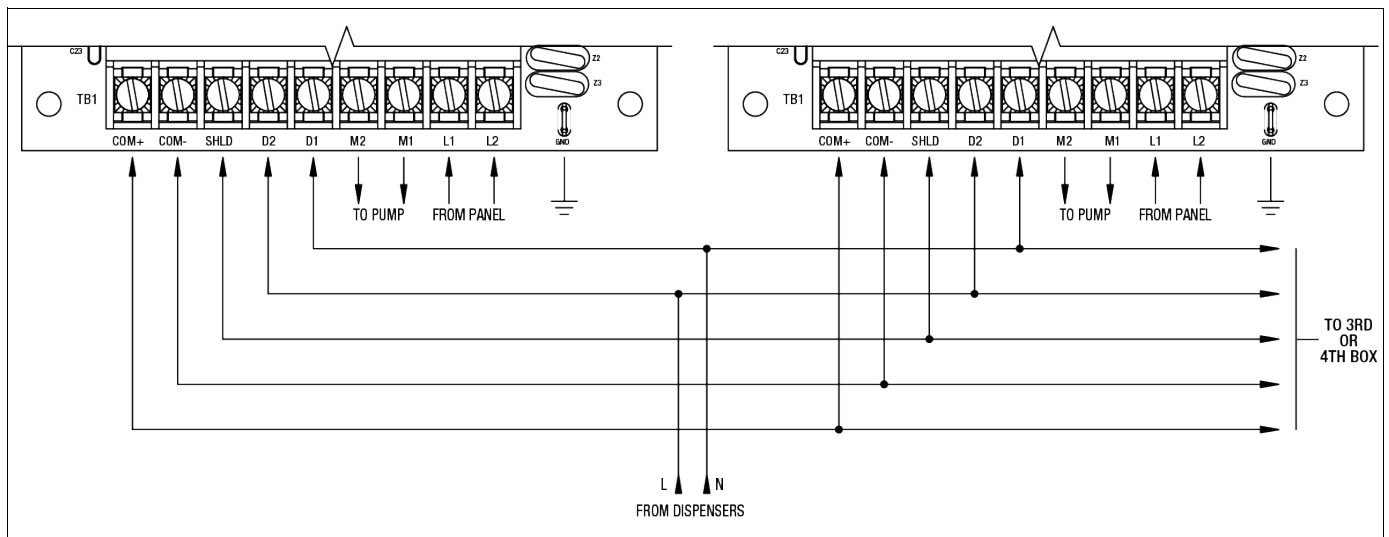
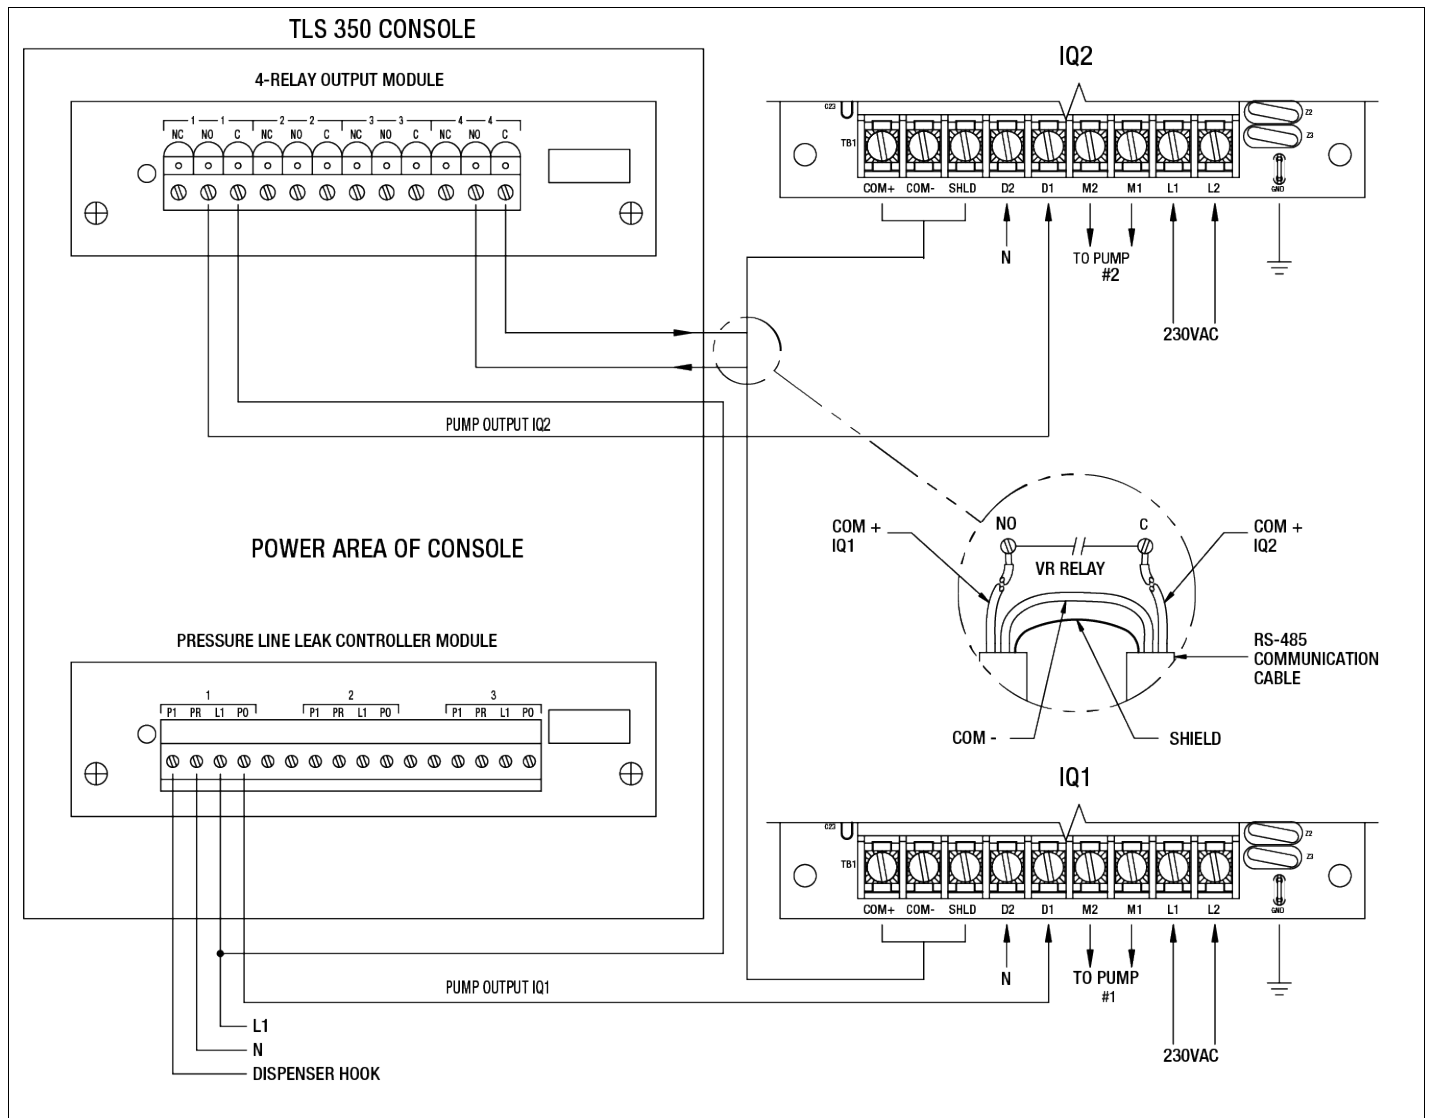
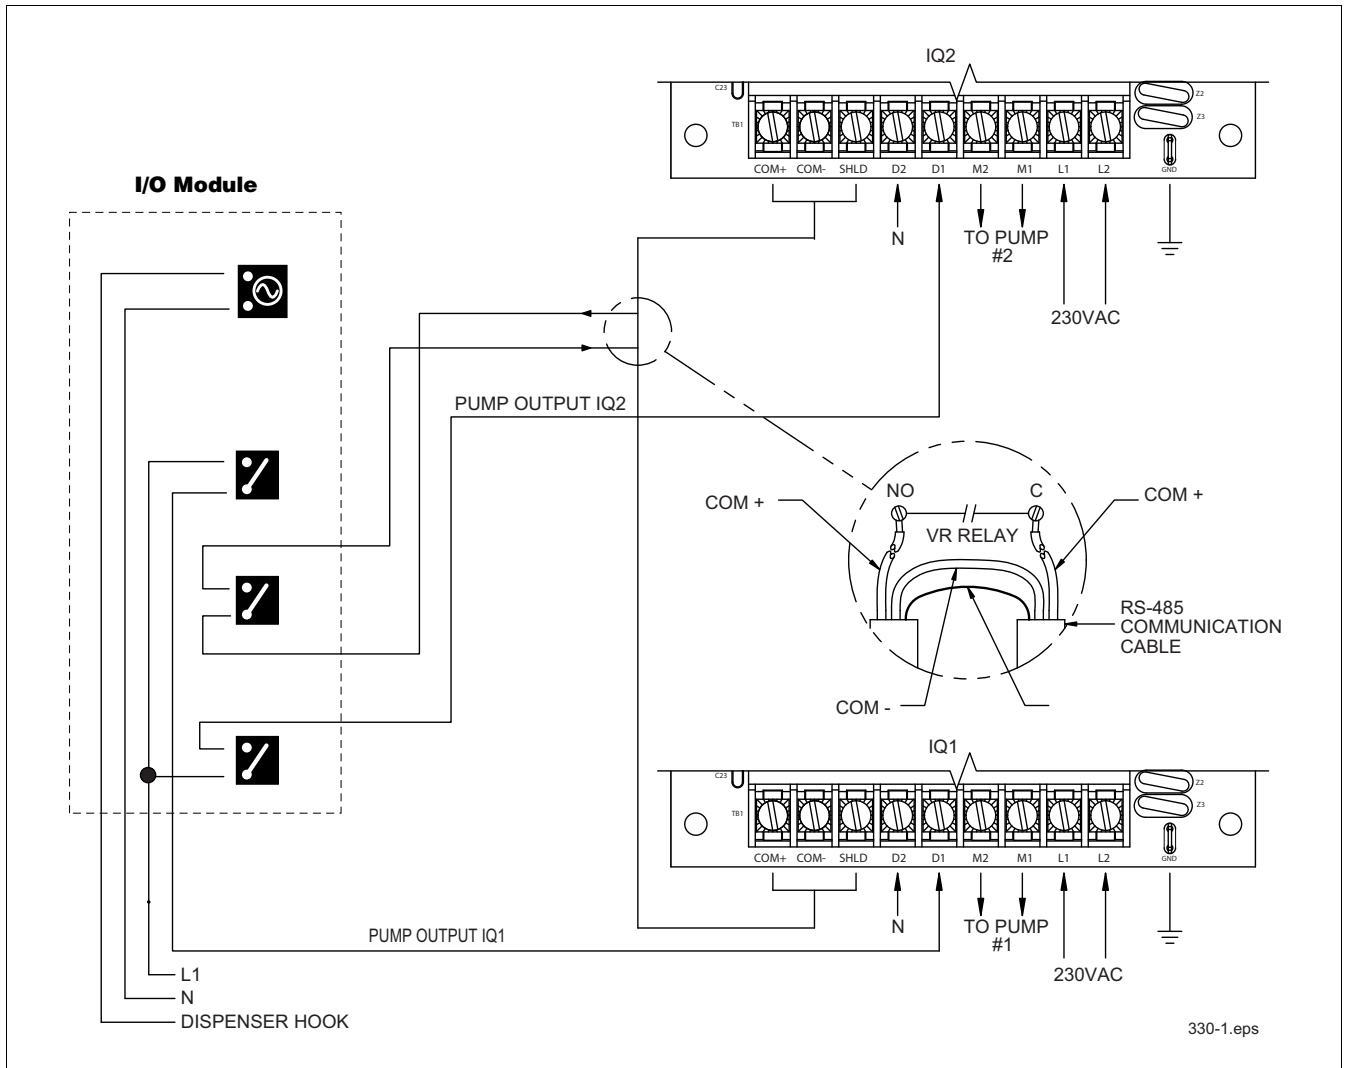

Figure 4. Wiring Diagram for Manifolded Systems
Figure 5. Wiring Diagram for IQ Control Box with TLS-350 Manifolded PLLD Systems
Figure 6. Wiring Diagram for IQ Control Box with TLS-450PLUS Manifolded DPLD Systems
8. Installations that will operate pumps in a manifolded or TLS450PLUS monitoring configuration require a two conductor, twisted pair with shield (min. 22 AWG) connected to the COM+, COM-, and SHIELD terminals of TB1. Daisy chain the communication cable to all of the controllers and/or the TLS-450PLUS as shown in Figure 4. Belden 3106A, or equivalent cable is acceptable. If adding a TLS-450PLUS monitoring configuration to an existing controller installation, reuse the existing cable between the controllers. The RS-485 link between pump controllers is not intended to be connected to other Red Jacket electronic equipment such as ProLink, CPT, VSFC or other ATG devices. However, it may be necessary to break communications in PLLD or DPLLD applications as shown in Figure 5 and Figure 6. This cable must be installed in conduit.